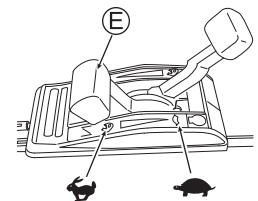

Fig. 14
- Confirm that there is no person behind you when pulling the starter knob (V).
- Securely hold the starter knob (V) when you pull it.
- Return the starter knob (V) slowly.
5. Warm up the machine before use. After the engine has warmed up, start mowing by setting the throttle lever (E) to "II". (See Fig. 14)